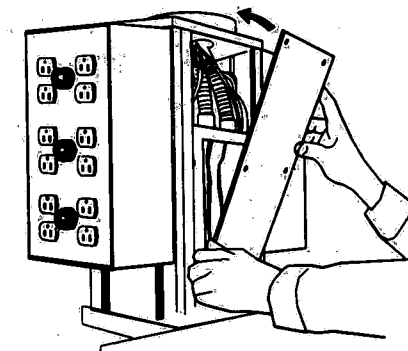
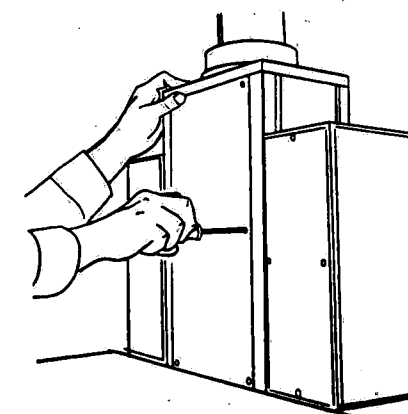

Figure 6-20. Positioning Front Cover Panel
Figure 6-21. Securing Front Panel
13. Replace front cover panel (see Figure 6-20) and secure with attaching screws (see Figure 6-21).